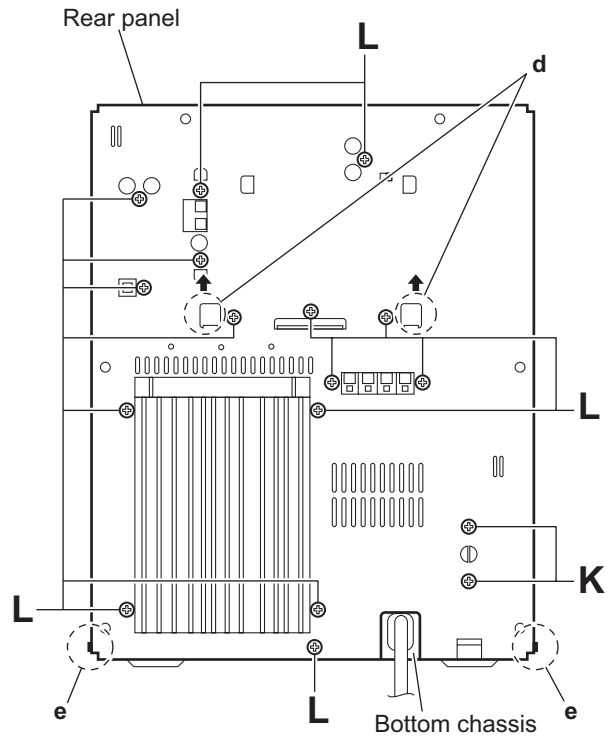

Fig.11
- (3) Remove the two screws **K** and fifteen screws **L** attaching the rear panel. (See Fig.11.)
- (4) From the both sides of the main body, release the sections **d** of the center chassis in the direction of the arrow and release the joints **e** attaching the rear panel to the bottom chassis. (See Fig. 11.)